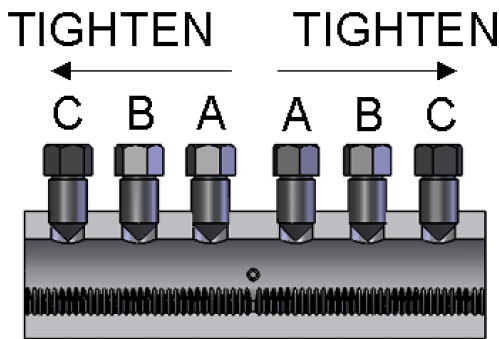

Figure 1b- S1 - Assembly cross section
Step 1: Read all instructions and procedures before commencing splicing. Ensure the nVent LENTON Lock coupler is sized properly for the bars being spliced and per project plans. Product should arrive with bolts configured as shown in Figure 1b. All bolts should be pointed for S1 series couplers.